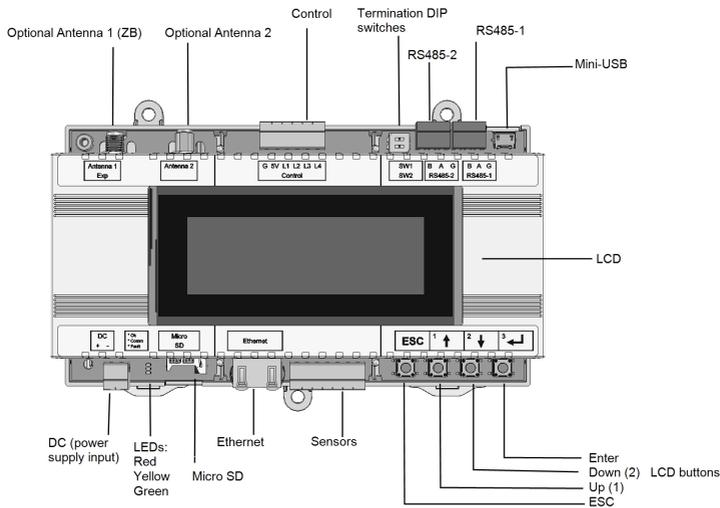

Figure 3: Control and Communication gateway interfaces
1. Connect the power supply cable connector to the connector labeled **DC** on SolarEdge gateway (see *Figure 3*).
2. Connect the power supply to the AC mains. The LEDs are lit momentarily to indicate power connection (see *Figure 3*).